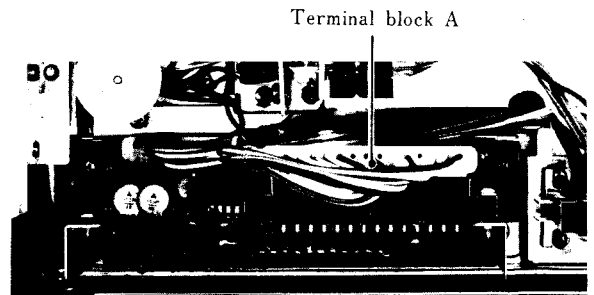

Fig. 8-2 Terminal Block A Location
1. Remove terminal Block A from the Control PC board. See Fig. 8-2.